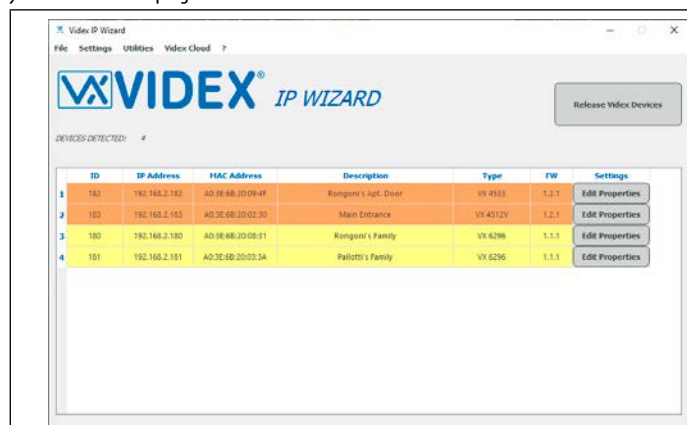

Fig. 39 Click on edit properties
- Launch the Vindex IP wizard, detect the Vindex devices then click on edit properties button of the device to update (**Fig. 39**).